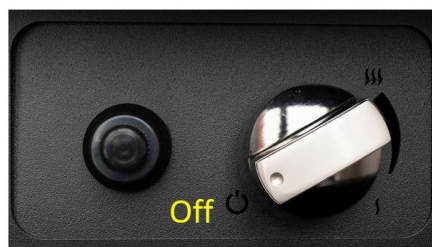

Fig. 12 – Turning the device off
- To achieve a higher flame turn the knob clockwise to “Hi” position. To achieve a lower flame turn the knob counter-clockwise to “Lo” position (*Fig. 12*).